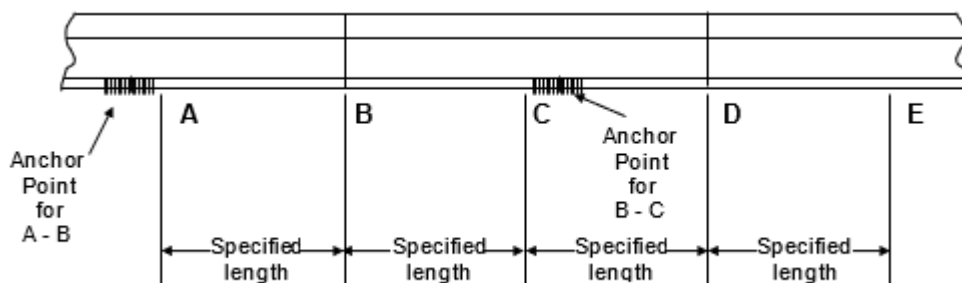

Figure 1 - Establishing anchor points
1. Create anchor points by installing anchors one each side of the sleeper on each rail for 32 sleepers outside the area to be adjusted i.e. at points A and C in Figure 1 (either side of joint B). In resilient fastened track, resilient fasteners are used instead of anchors.
6. DO NOT use common anchor points. In Figure 1 above DO NOT leave the anchor point on at C when adjusting the section C – E since this would result in short sections (20m) of unadjusted track.